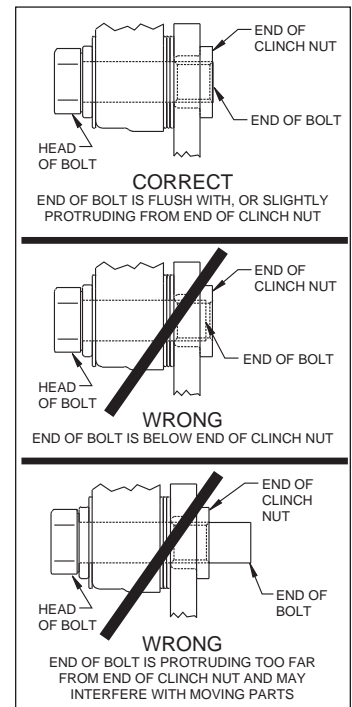

Figure 4. Clinch Nut Engagement Diagram
**Assembly Instructions** (numbers in parenthesis refer to the parts list, and Figure 2): **CAUTION:** All mounting bolts must fully engage clinch nuts. Be sure to check that all bolts are either flush or protruding through flanged side of clinch nut after shimming, Figure 4.
•**NOTE:** Please reference the caution statement at the beginning of the assembly instructions. This kit contains distinct right and left hand calipers that must be mounted in a specific direction, as described below. Mount the caliper (16) onto the caliper mounting bracket (1) using bolts (18) and washers (17), as shown in Figure 2. Initially place two .035" thick shims (19) on each bolt between the caliper and the bracket, Photo 7. Ensure that the caliper is mounted so the largest pistons are at the rotor exit end of the caliper, in relation to the direction of rotor rotation. Temporarily tighten the mounting bolts and view the rotor (9) through the top opening of the caliper. The rotor should be centered in the caliper, Photo 8. If not, adjust by adding or subtracting shims between the bracket and the caliper. Always use the same amount of shims on each of the two mounting bolts. **NOTE:** The end of each bolt must be flush with or slightly protruding from the head of the clinch nut, as shown in Figure 4. If necessary place spare shims between washer (17) and caliper mounting ear to achieve the proper clinch nut engagement. Once the caliper alignment and clinch nut engagement are correct, remove the bolts one at a time, apply red *Loctite*® 271 to bolt threads, and torque to 40 ft-lb.